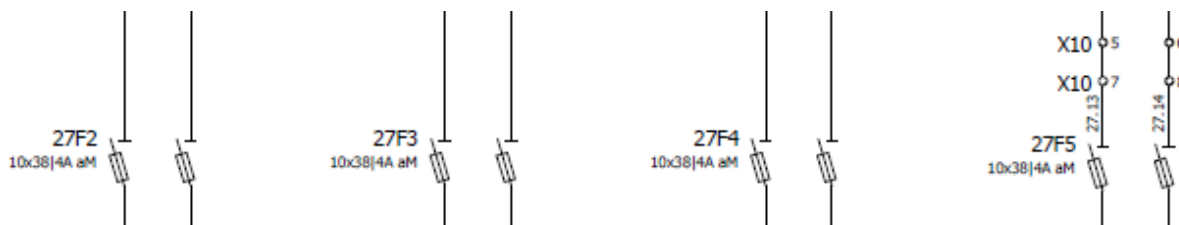

Figure 67: Checking the 110 Vac control power supply
- Check voltage presence downstream from fuses 27F2, 27F3, 27F4 and 27F5 (see Figure 67).